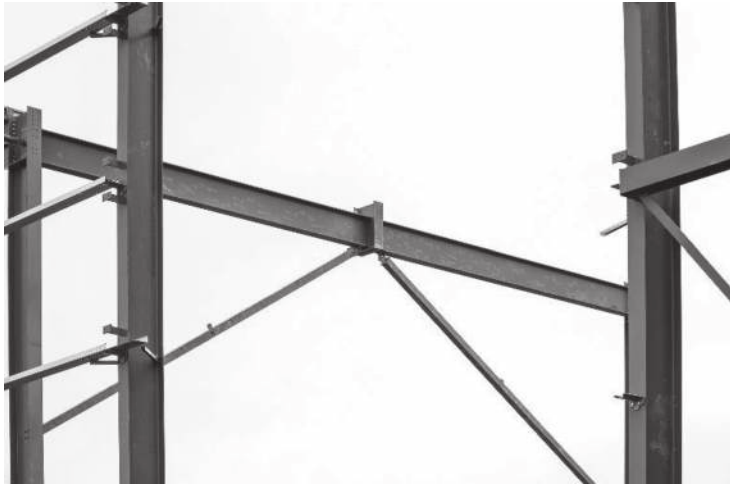

Fig. 1.1
- 1 Fig. 1.1 shows part of the steel frame structure of an industrial building.